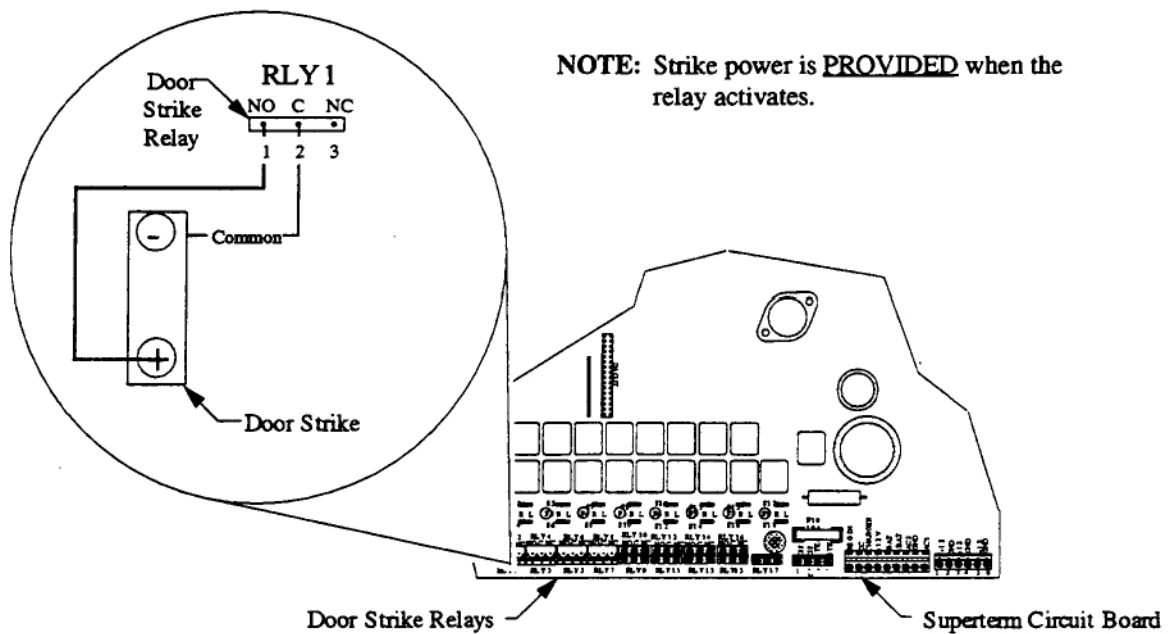

Figure 19 - LOCAL Power Door Strike Relay Connection - Normally Open (NO) Condition
Table 18 lists the connections between the RLY#x terminal strip and the associated door strike for a Normally Open (NO) condition (see Figure 19).